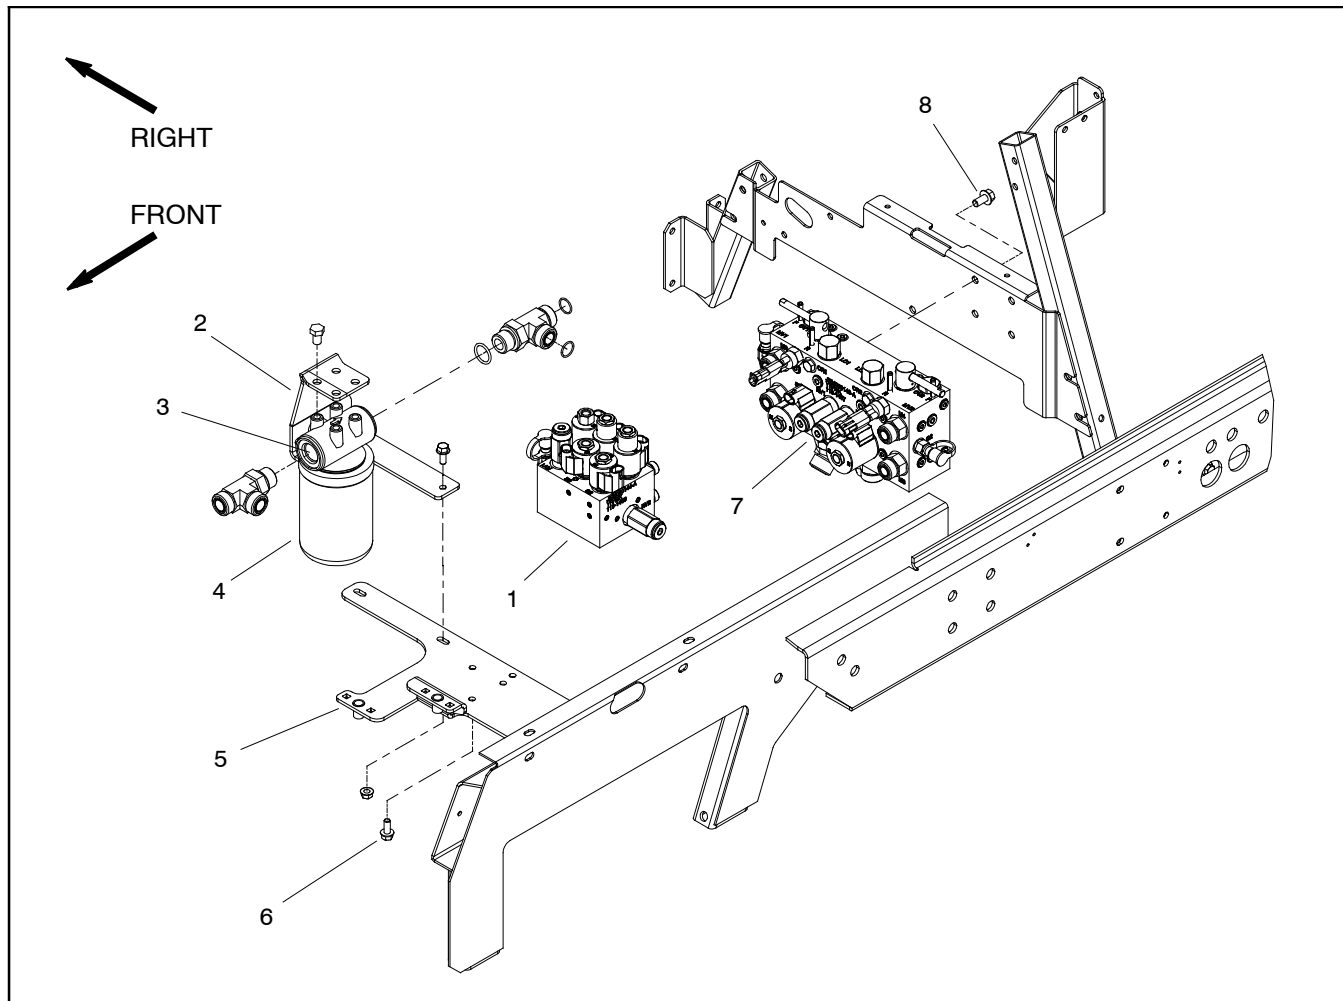

Figure 88
### Removal (Fig. 88)
7. Remove hydraulic manifold from the frame using Figure 88 as guide.
### Installation (Fig. 88)
2. Install hydraulic manifold to the frame using Figure 88 as guide.